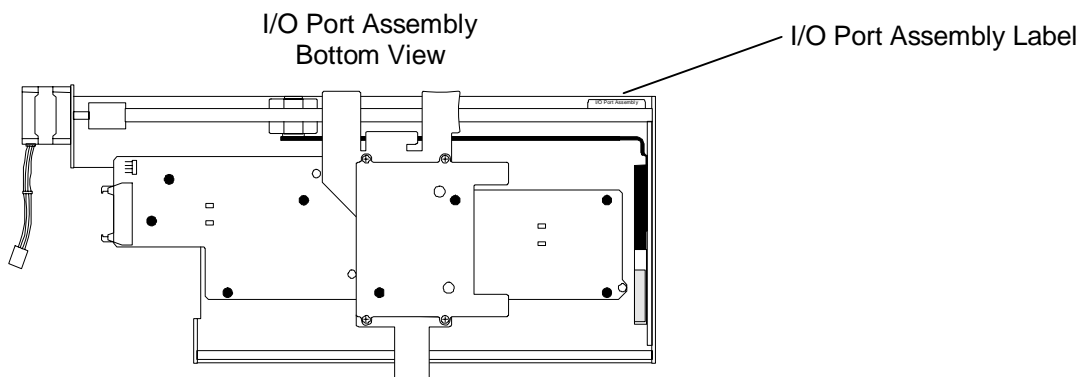

Figure 7-47 I/O Port Assembly Label
5. Inspect the label on the I/O port assembly to determine its revision level (e.g., I/O Port: A). See Figure 7-47.